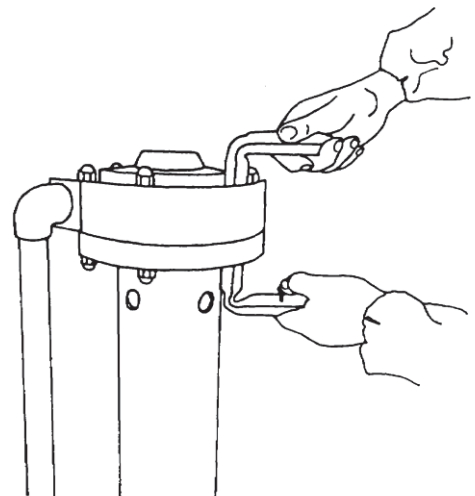

FIG.2
- 2) Unscrew (clockwise thread) by means of a pipe wrench of 18 or 22 mm (if possible don't use another type of key) the tightening nuts of the body (pos. 9) (see fig. 2).
- 3) Remove the body (pos. 22) after having unscrewed (clockwise thread) the delivery tube (pos. 26). If the pressure device is equipped with a flange (pos. 29), loosen the pipe union (pos. 25). Please make sure that the eventual flow fittings are completely detached.
- 12) Position the impeller (pos. 21); tighten (clockwise thread) the fixing nut (pos. 20) with a pipe wrench of 22 mm. (On some impellers you have to use a fixed wrench of 32 mm). It is very important to place the O-rings (pos. 18-19), since they protect the shaft.
- 13) Put the gasket of the body (pos. 23) into its site.
- 14) Introduce the pump body (pos. 22) after having introduced into the appropriate sites the o-rings, which protect the ties.
Tighten the nuts (pos. 9) by means of a pipe wrench of 18 or 22 mm (fig. 2). Interpose the o-rings (pos. 10) between the covered nuts and the body.
- 15) The last assembly phase is dedicated to the positioning of the delivery tube (26) and the eventual fixing of flow fittings (pos. 60), if present.